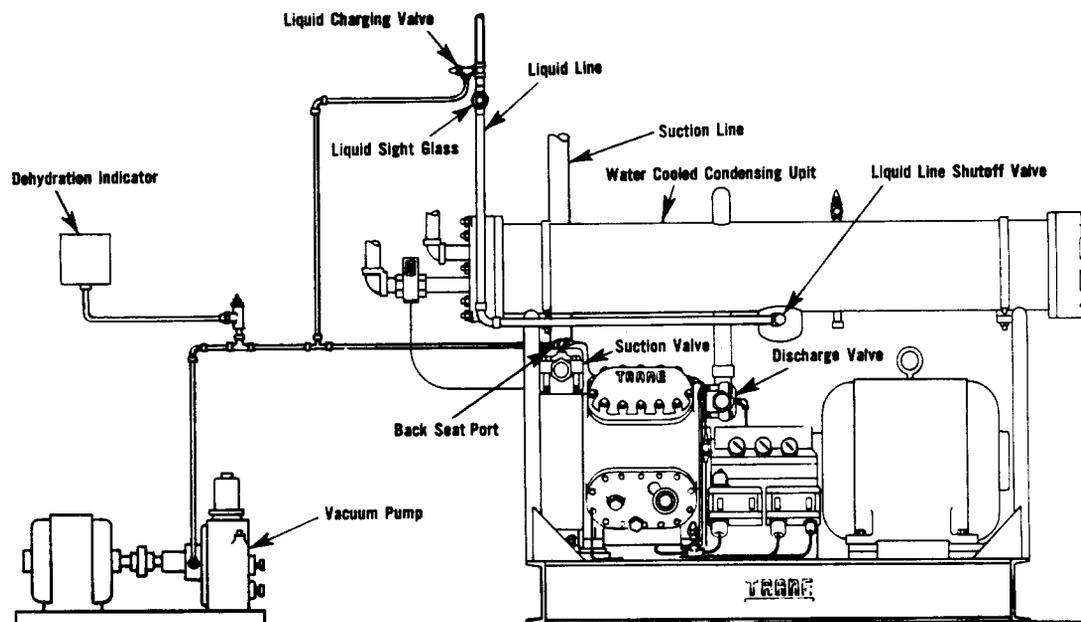

Fig. 10 — Method of Connecting Vacuum Pump for Evacuation Prior to Charging System
6.02 Dehydration: The most effective method of dehydrating a system is known as the evacuation method which involves the use of a vacuum pump. Fig. 10 shows a typical hookup.